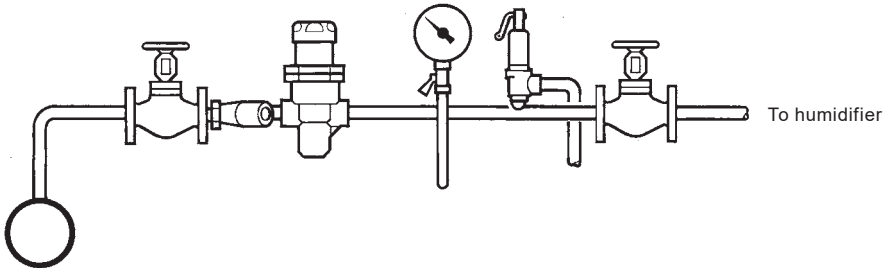
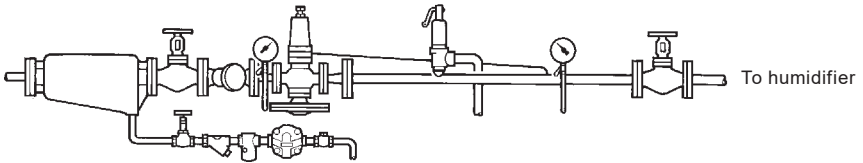

Fig. 18
Fig. 19
- 3.9.1** It is important that the steam supply to the humidifier is as dry as possible, and that the system is adequately drained of condensate. The pipework immediately upstream of the humidifier should be free of any low points where condensate could collect. Take offs should always be from the top of the main - see Figure 18.
- 3.9.2** The steam supply to the humidifier should be maintained at a constant pressure to ensure that the design conditions are met. This may require the fitting of a pressure reduction set, as typically shown in Figure 18 and Figure 19.